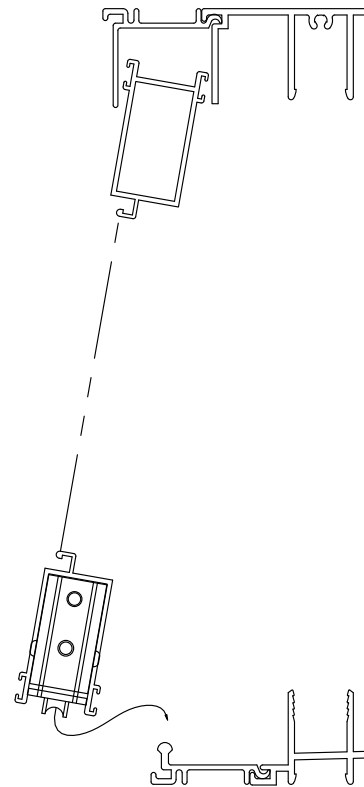

Figure 31
- 1) Position panel so that top of panel slips into frame header channel. Swing bottom of panel in until bottom of panel is aligned over sill spline and set panel on roller spline. (See Figure 31)